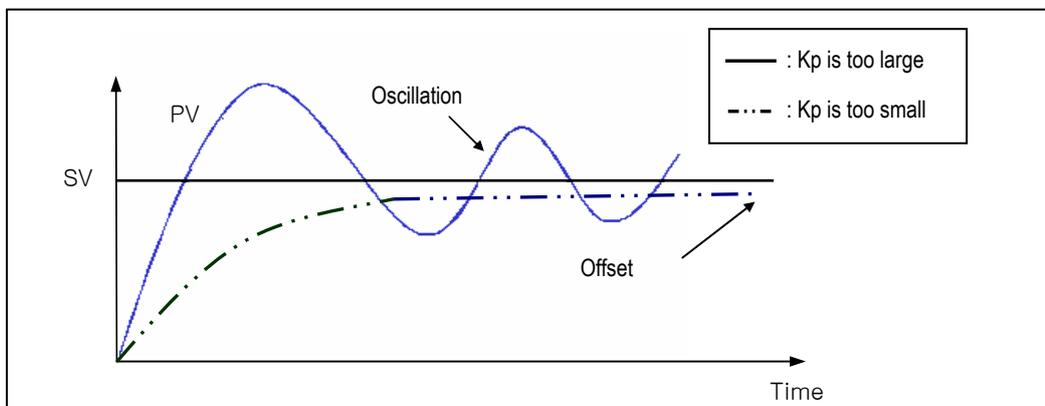

Fig. 7.2 The relation between Proportional constant (K_p) and present value (PV)
- (e) If the K_p is too small, oscillation will not occur. However, the PV reaches to the SV slowly and an offset may appear between PV and SV shown in the Fig. 7.2.
- (f) The manipulation value (MV) varies from 0 to 4,000. User can define the maximum value of MV (MV_MAX) and minimum value (MV_MIN) within the range 0 ~ 4,000.